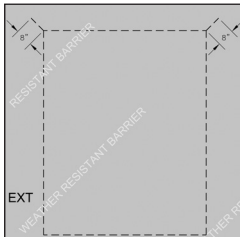

FIG. 5
- E) Cut the weather-resistant barrier (WRB) along the perimeter of the rough opening. Ensure the WRB is cut flush with the sheathing and is not wrapped into the rough opening. (Fig. 5)
- F) From the exterior, make two diagonal cuts at the top corners of the perimeter to form a flap. (Fig. 5)